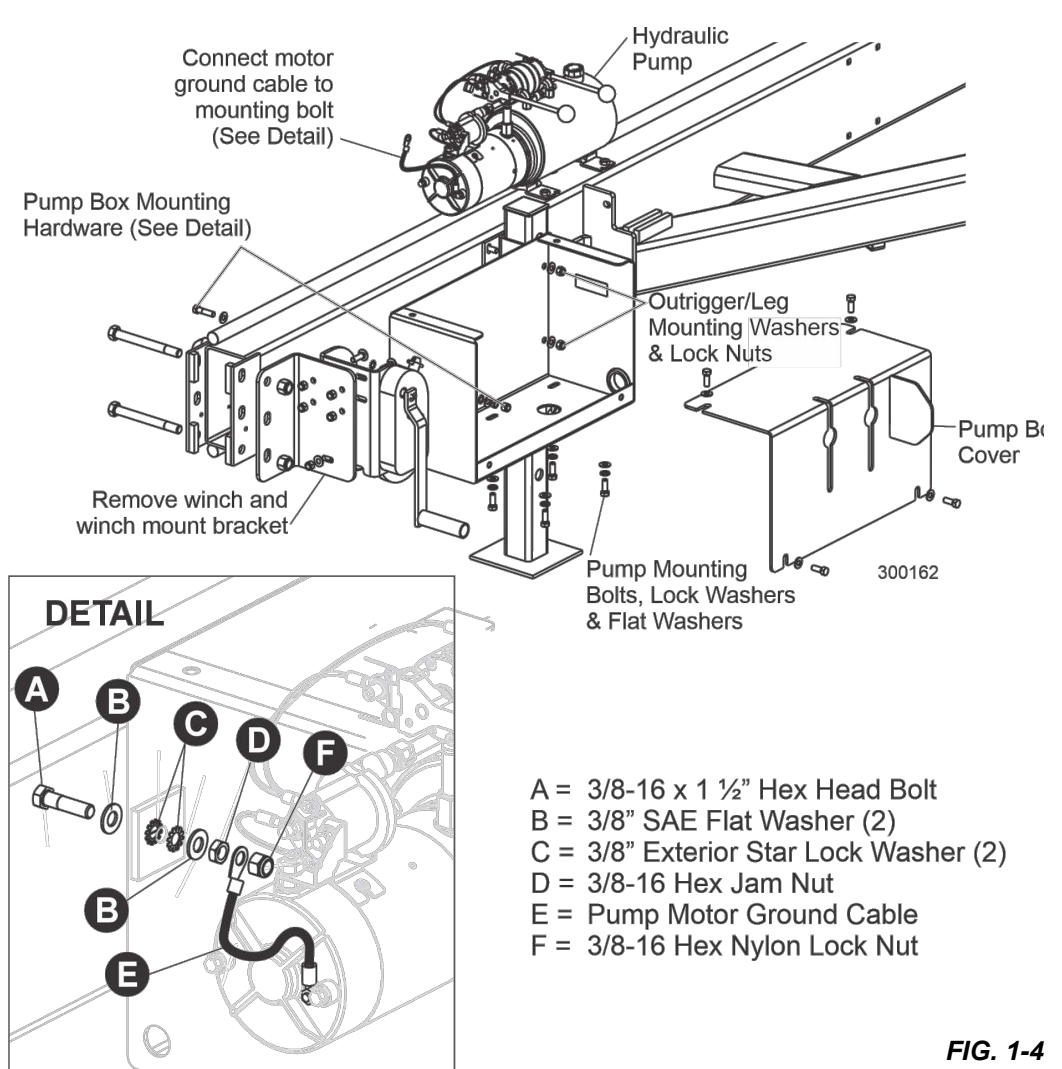

FIG. 1-4
3. Place the hydraulic box against the sawmill main tube as shown in FIG. 1-4..